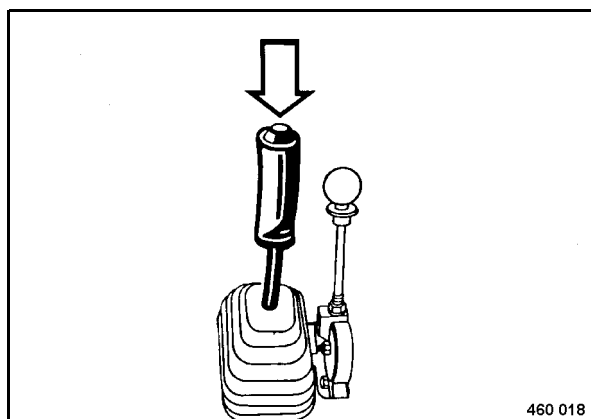

Fig. 59
- Actuate the vibration push button (Fig. 59).
- Actuate the vibration push button (Fig. 59) again.